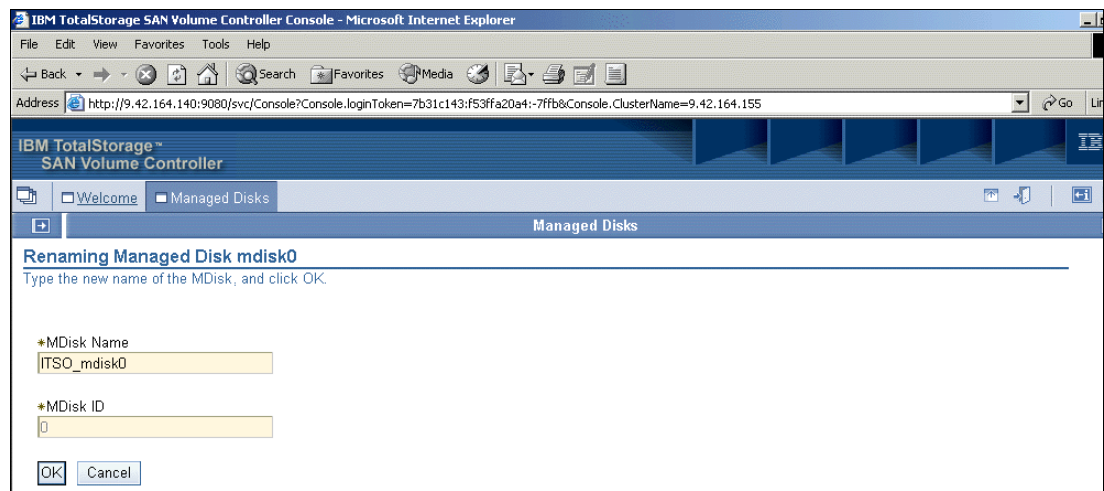

Figure 9-31 Renaming an mDisk
After you minimize the column, you see an arrow in the far left position in the same location where the My Work column formerly appeared. See Figure 9-31.
2. On the Renaming Managed Disk *mDiskname* panel (where *mDiskname* is the mDisk you selected in the previous step), type the new name you want to assign to the mDisk and click **OK**. See Figure 9-31.